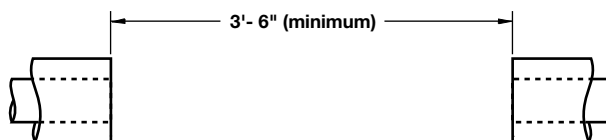

Figure F-112. Remove damaged section of pipe
1. The damaged section of pipe is removed first (Figure F-112).